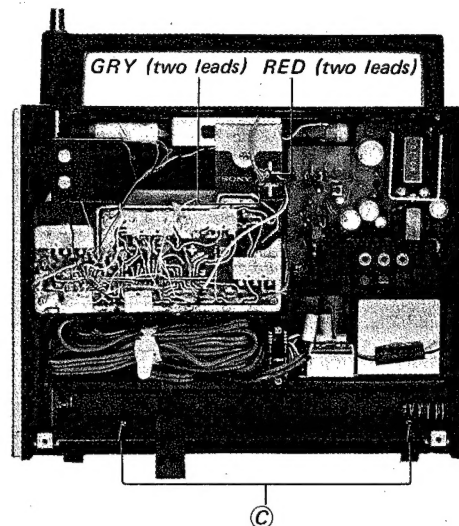

Fig. 2-3 Chassis removal, steps 5 and 6
5. Unsolder the four leads, GRY and RED, in Fig. 2-3.
6. Remove the two screws labeled **(C)** in Fig. 2-3.